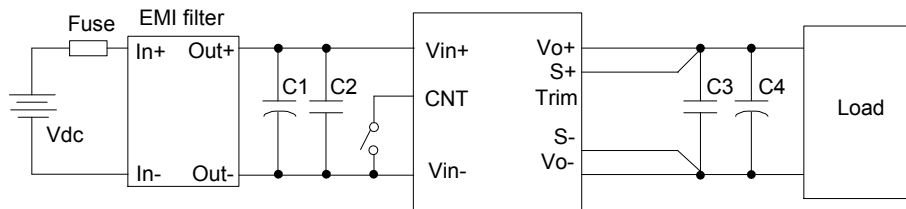

Figure 11 Typical application
Figure 4 Dynamic response for 25% load step (50% ~ 75% ~ 50%) and 0.1A/μs slew rate, (2ms/div), see Figure 11 for test configuration; CH1-output voltage (50mV/div); CH2-output current (2A/div)
Figure 5 Dynamic response for 25% load step (50% ~ 75% ~ 50%) and 1A/μs slew rate, (2ms/div), see Figure 11 for test configuration; CH1-output voltage (50mV/div); CH2-output current (2A/div)
If the load is far from the unit, connect S+ and S- to the terminal of the load respectively to compensate the voltage drop on the transmission line. See Figure 11.
C1 ~ C4: See Figure 11
- C1 ~ C4: See Figure 11